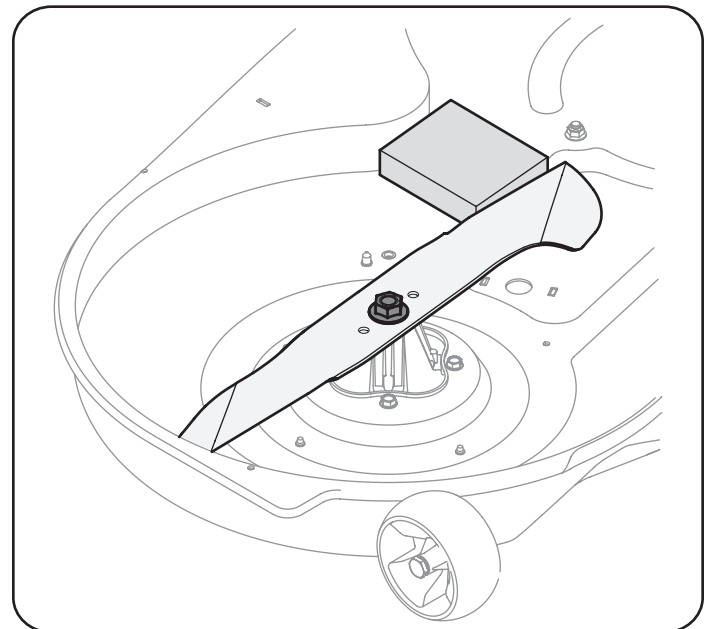

Figure 29
2. Place a block of wood between the center deck housing baffle and the cutting blade to act as a stabilizer. See Figure 29.
3. Remove the hex flange nut that secures the blade to the spindle assembly. See Figure 29.